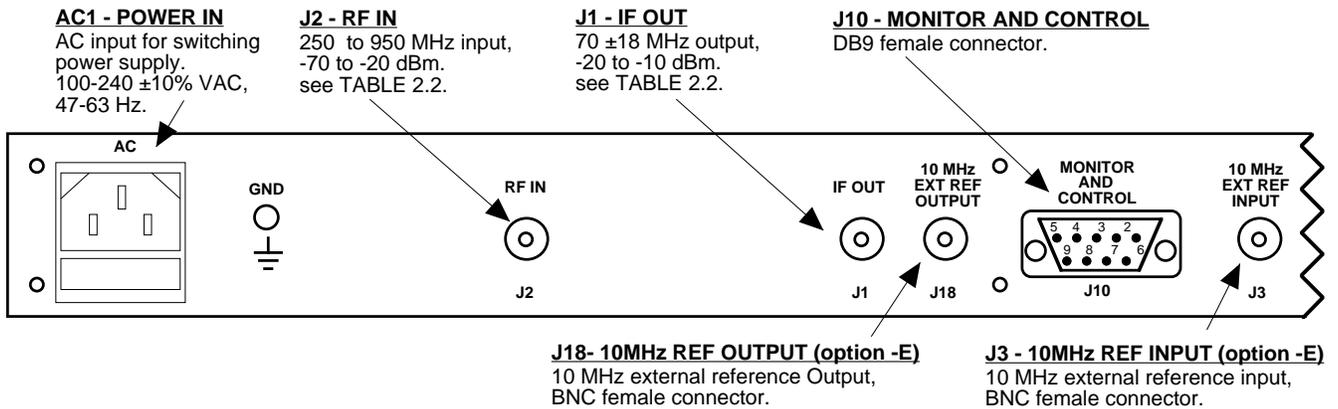

FIGURE 2.2 2016-95 Rear Panel I/Os
2.2 Rear Panel Input/Output Signals - Figure 2.2 shows the input and output connectors on the rear panel.
1. Connect a -70 dBm to -20 dBm signal to RF IN, J2 (Figure 2.2)